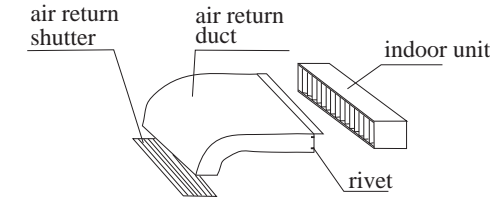

Fig2: Duct return connected
- Use rivets to connect the air return duct to the air return inlet of the indoor unit. The other end connects to the air return shutter. as shown in Fig.2.